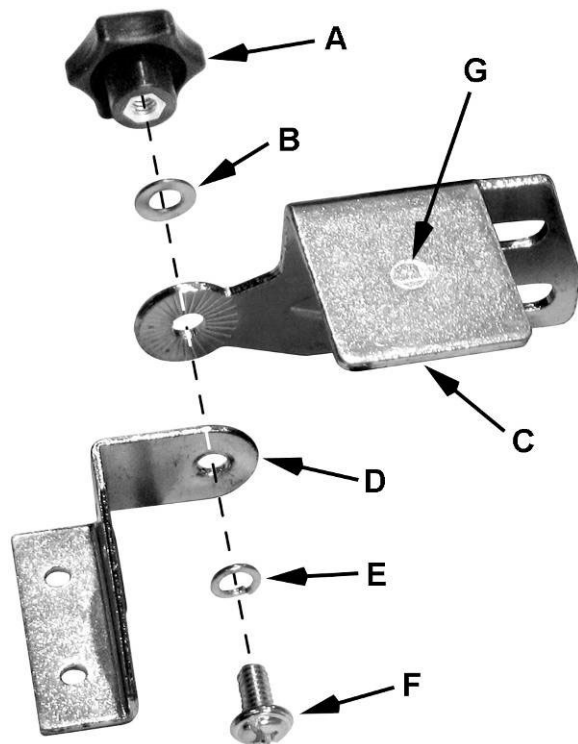

Figure 1
- 2 Brackets (D) (see Note)
- 2 Lock Knobs (A)
- 2 Spark Guards (C) (see Note)
- 2 1/4" x 1/2" Screws (F)
- 2 1/4" Flat Washers (B)
- 2 1/4" Lock Washers (E)
**Note:** Brackets (D) and spark guards (C) are marked **L** (G, Fig. 1) for left side assembly and **R** for right side assembly.
1. Assemble the left *spark guard and eye shield mounting bracket* using Figure 1 as a guide. Make sure the spark guard and bracket is marked **L**.
- 2 Tool Rest Left (J) and Right (not shown)
- 4 5/16" x 3/4" Hex Cap Screws (C)
- 4 5/16" Flat Washers (D)
**Note:** There is a *left* and a *right* tool rest. Refer to Figure 1 to ensure that you install them correctly.
1. Install the *left tool rest* (J) by threading two 5/16" x 3/4" *hex cap screws* (C) through two 5/16" *flat washers* (D) and the *tool rest* (J) into the *wheel housing* (M).